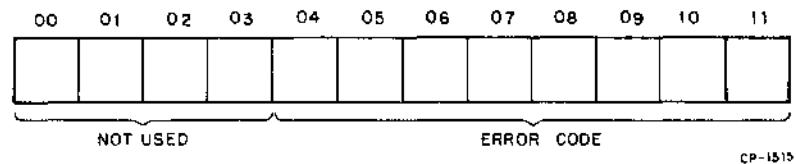

Figure 4-3 Error Code Register Format
4.3.2 Error Code Register (Figure 4-3)